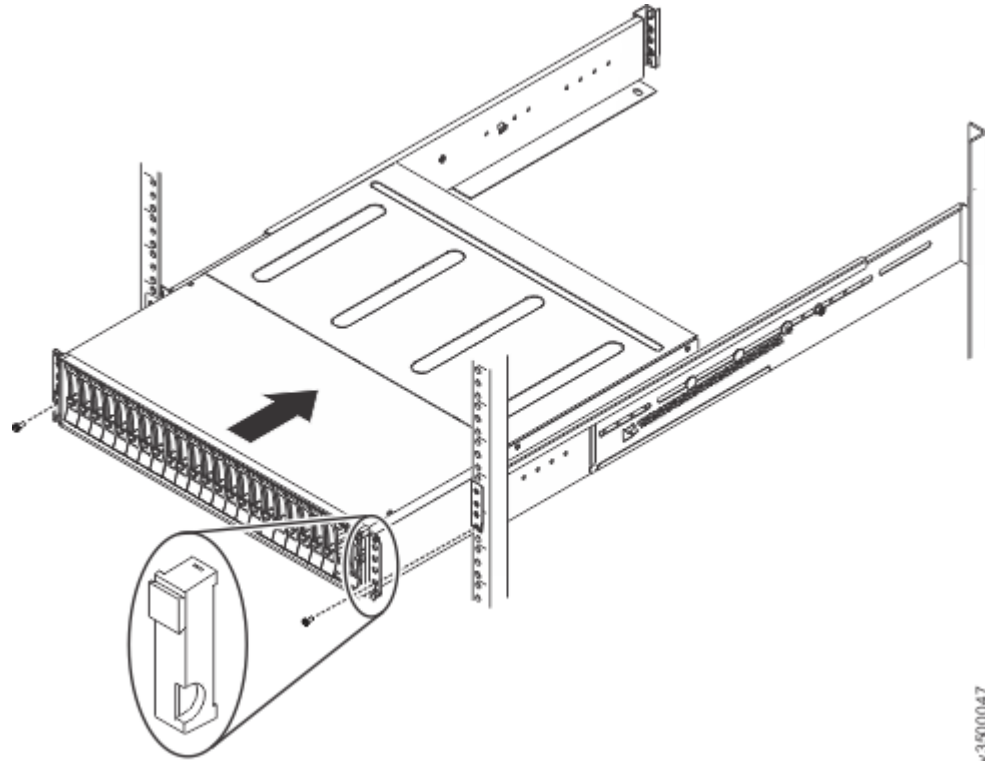

Figure 31. Inserting the enclosure
3. Slide the enclosure into the rack along the rails until the enclosure is fully inserted. (See Figure 31 on page 67.)